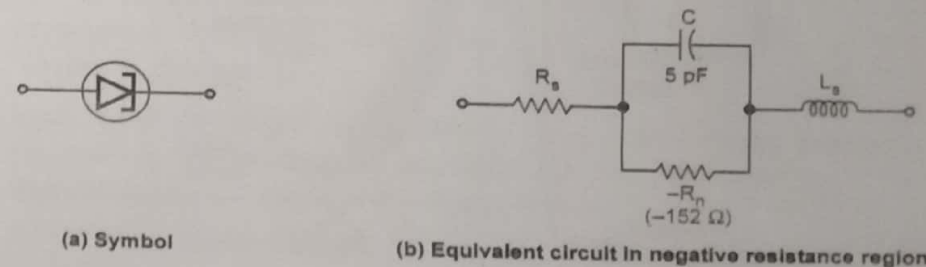

Fig. Q.18.2 Tunnel diode
- The circuit symbol of a tunnel diode is shown in the Fig. Q.18.2 (a) while its equivalent circuit in the negative resistance region is shown in the Fig. Q.18.2 (b).